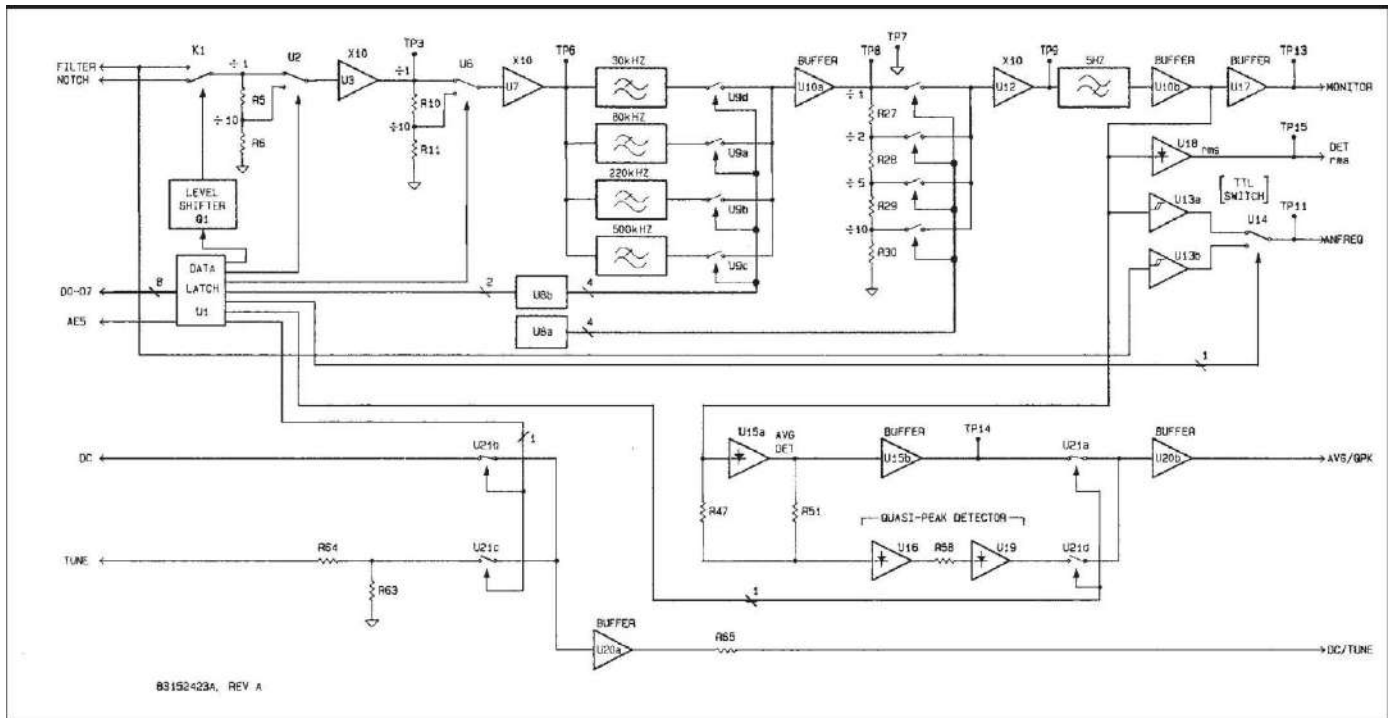

Figure 4-8. Detector Circuits Block Diagram.
**4-61. A3 Detector Circuits.** The detector circuits provide the post notch gain, low-pass filters, frequency counter schmitt triggers, and the rms, average and quasi-peak detectors for the Model 1121A. Refer to Figure 4-8.